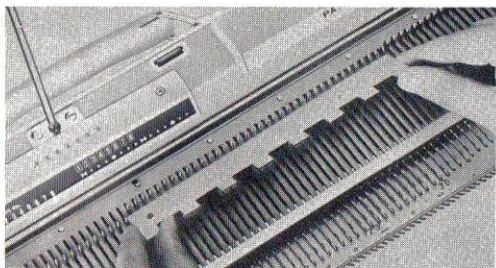

Fig. 1
1. Release all needle selector buttons by pushing down the "Release" button. Set the reverse lever onto "A" and push back all needles in position "A" (resting position) (See Fig.1)